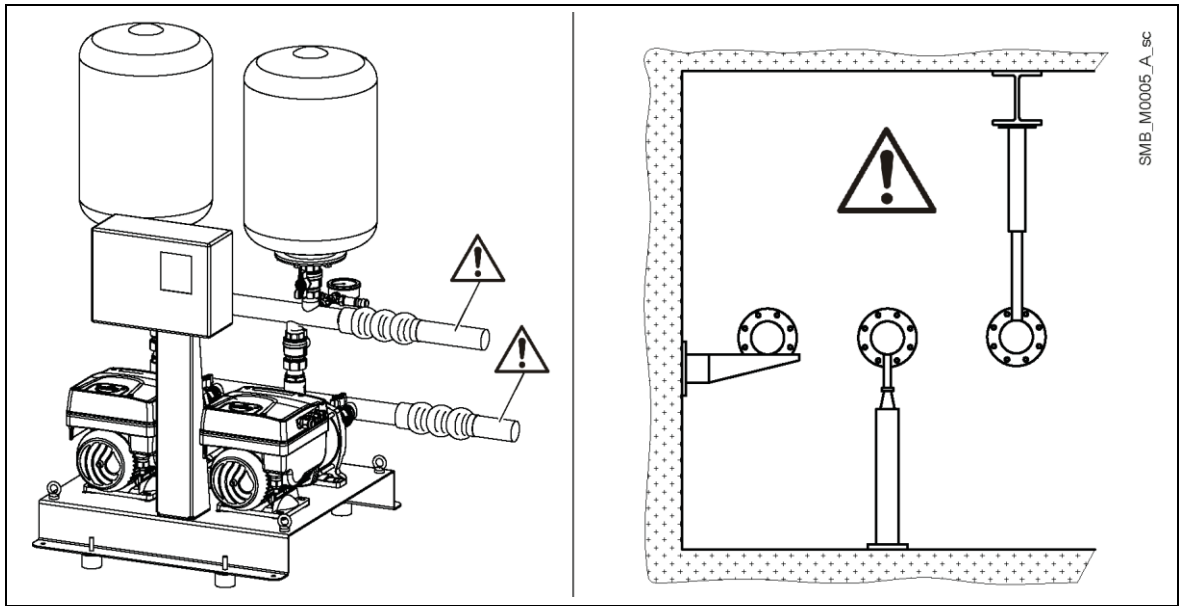

Figure 7: Mechanical installation of the booster set
- Mount expansion joints and suitable supports for the pipes to protect these against stress, see Figure 7. The weight of the pipes and pressure tanks increases when they are filled with water. Before starting the set, make sure you have closed and tightened all the unused couplings.